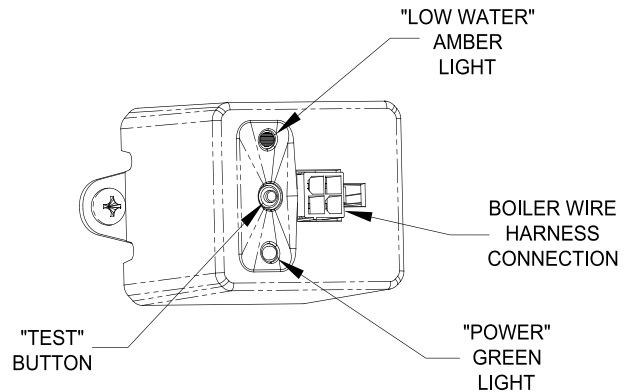

Figure 10.1: IDL 1200 Low Water Cut-Off
- C. LWCO Probe Check - Turn on power to the boiler. Both the green power light and the yellow low water light should come on (Figure 10.1)
- P. Check LWCO Operation - Push and hold the LWCO TEST button while the boiler is firing (Fig 10.1). The burners should shut down and the yellow light illuminate on the LWCO. Upon releasing the TEST button, the yellow light should go off and the boiler fire.